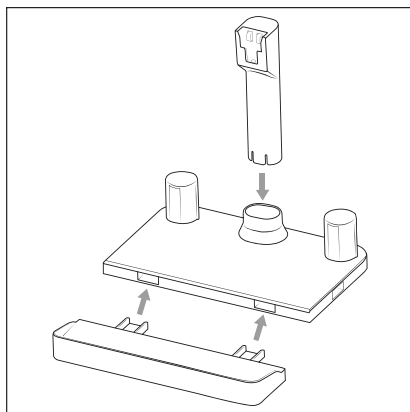

Fig. 4
- 1) Put the docking station **15** together and attach the vacuum stand **17** to the docking station **15** (see Fig. 4).